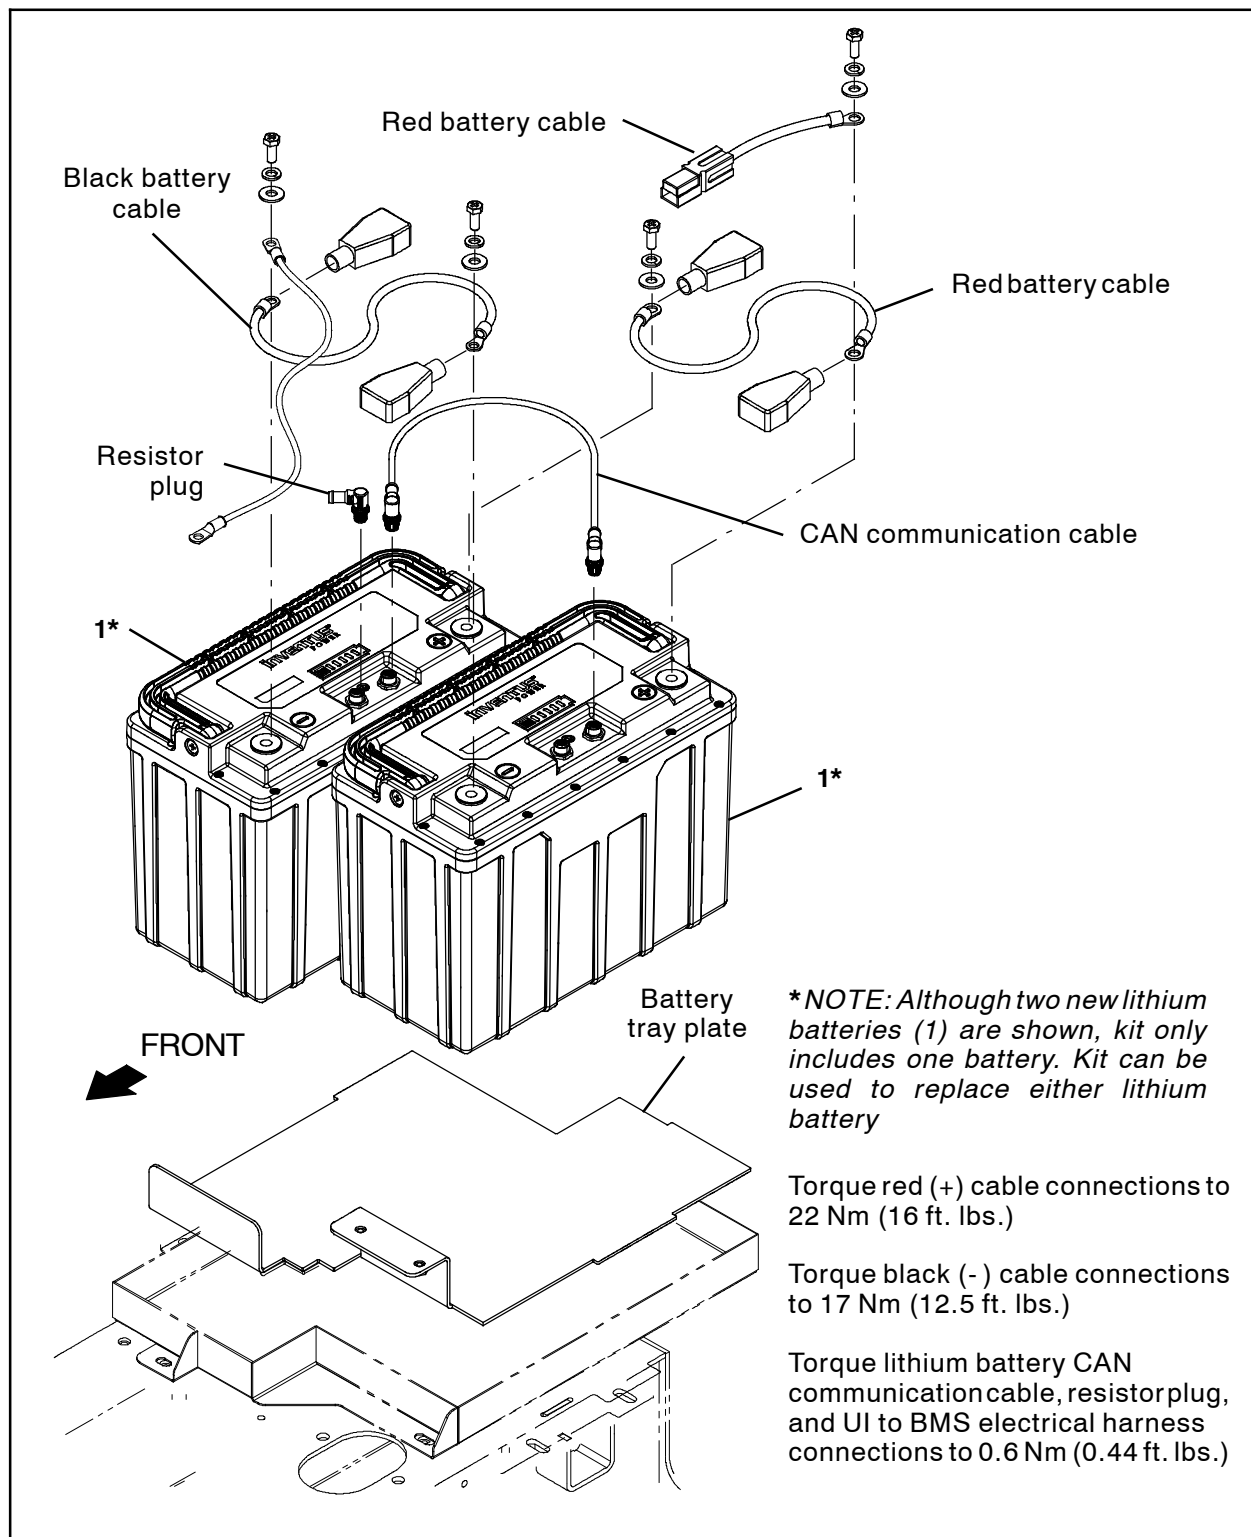

FIG. 3
5. Disconnect all cables from the faulty lithium battery being replaced. (Fig. 3)
6. If replacing the lithium battery equipped with the resistor plug, remove the resistor plug from the battery. Set the resistor plug aside. (Fig. 3)
7. Remove the faulty lithium battery from the battery compartment. (Fig. 3)
1. Install the new lithium battery into the battery compartment. (Fig. 3)
2. Reinstall the battery cables, CAN communication cables, and resistor plug (if battery equipped with resistor plug is being replaced) onto the battery. (Fig. 3)